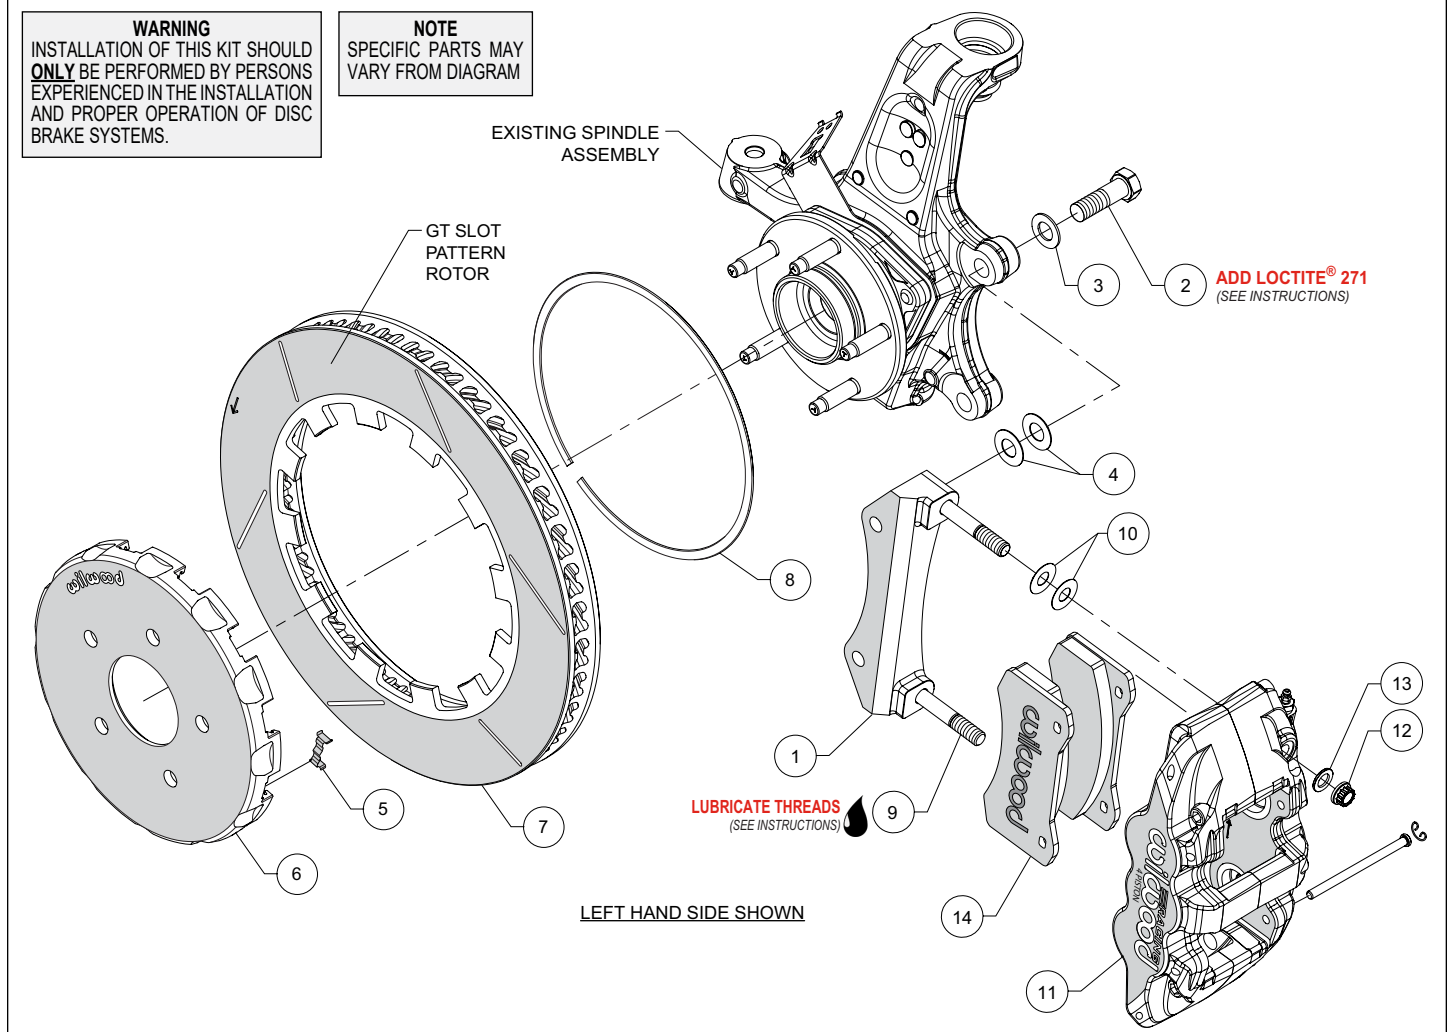

Figure 1. Typical Installation Configuration
NOTE: Numbers in parenthesis refer to the parts list and Figure 1 on the preceding pages.
- The caliper mount bracket (1) should initially be installed with clean, dry threads on the mounting bolts. Orient the bracket, as shown in Figure 1 and Photo 1, and install using bolts (2) and washers (3). Initially place two .029" thick shims (4) on each bolt between the bracket and upright, Figure 1. Temporarily tighten the mounting bolts. **NOTE:** *The bracket must fit squarely against the mount bosses on the upright.* Inspect for interference from casting irregularities, machining ridges, burrs, etc. Later, after the caliper alignment has been checked, the mount bolts will be secured using red *Loctite*® 271.
- Insert the dynamic mount wear clips (5) into the slots in the hat (6), Photo 2. Orient the rotor (7) as shown in Figure 1 and Photo 3, with the flush side of mount lugs facing the hat. Secure the rotor to the hat using the snap ring (8) by simultaneously pushing down on the rotor and installing the ring into the groove in the hat, as shown in Photo 4. Carefully inspect snap ring to ensure complete engagement in the groove.
- NOTE:** *This kit contains distinct right and left hand calipers that must be mounted in a specific direction, as described below.* Lubricate the caliper mounting studs (9) with lightweight oil. Initially place two .016" thick shims (10) on each stud between the caliper and the bracket, as shown in Figure 1 and Photo 5. Mount the caliper (11) onto the bracket (1) using lock nuts (12) and washers (13), Figure 1. Temporarily tighten the lock nuts. Ensure that the caliper is mounted so the largest pistons are at the rotor exit end of the caliper, in relation to the forward rotation of the rotor. View the rotor through the top opening of the caliper. The rotor should be centered in the caliper, Photo 6. If not, adjust by adding or subtracting shims (4) between the bracket and the upright. Always use the same amount of shims on each of the two mounting bolts. Once the caliper alignment is correct, remove the bracket mounting bolts one at a time, apply red *Loctite*® 271 to the threads, and torque to 77 ft-lbs.
- Unmount the caliper from the mounting bracket by removing lock nuts (12) and washers (13). Remove the two pad retaining pins from the caliper (11) by carefully popping out the pin retaining clips and sliding out the pins. Insert the brake pads (14) into the caliper from the bottom, Figure 1 and Photo 7. With the friction material facing the rotor, secure the brake pads in place with the pad retaining pins and clips, Photo 8. Reinstall the caliper onto the caliper mounting bracket and temporarily tighten the lock nuts. Check that the top of the brake pad is flush with the outside diameter of the rotor, Photo 9. If not, adjust by adding or subtracting shims (10) between the caliper and the bracket. After the caliper pad height is set, torque the caliper lock nuts (12) to 47 ft-lb.